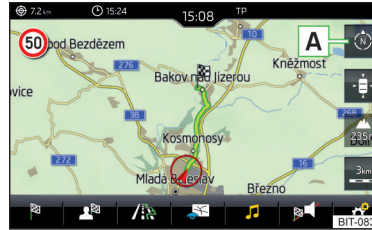

Fig. 239
- ▶ to **Change the map orientation** From the main menu *navigation* the functional surface **A** » Fig. 239.